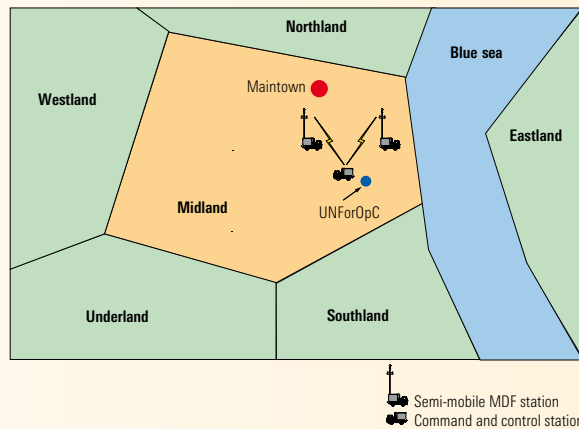

Fig. 3: Setup configuration of tactical CESM system at UN Forces Operation Center close to Maintown, Midland
- ◆ The system, consisting of the command and control station plus the two VHF/UHF MDF stations, is deployed out of area as part of a UN peacekeeping mission. This mission takes place in Midland, a virtual country somewhere in the world (see Fig. 3).